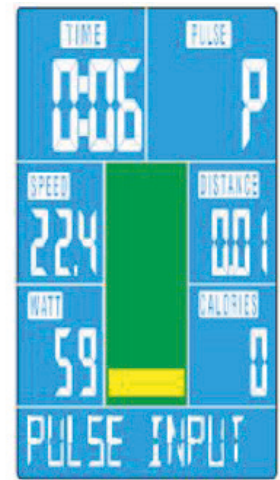

Fig. 16
- + Should no heart rate be recognised after 6 seconds, the display will show "PULSE INPUT" (see fig. 16).